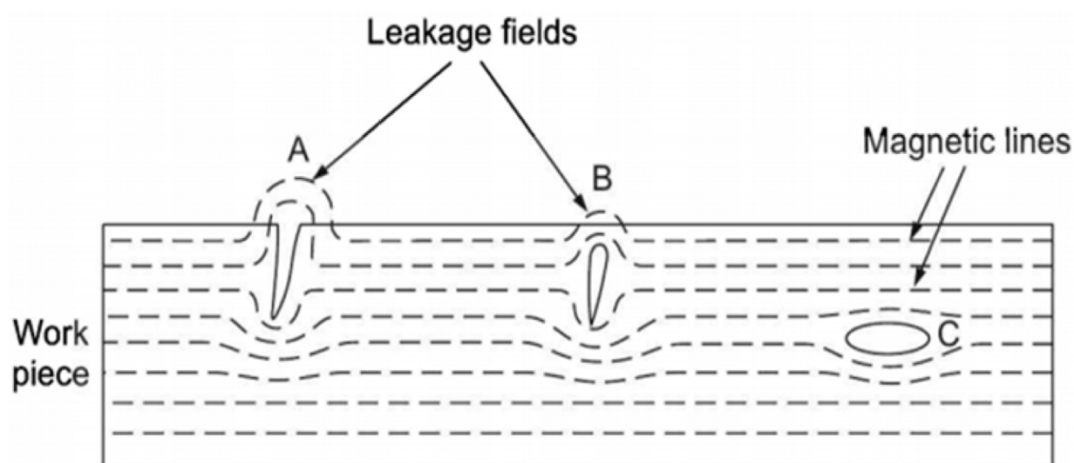

Fig. 4.14: Localised leakage of magnetic flux at flaws A and B.
- **Principle:** A ferromagnetic component is magnetized. At surface or near-surface flaws, magnetic flux leaks out, creating local poles. When iron particles are applied, they are attracted to this leakage field, outlining the flaw. (**Fig. 4.14**)